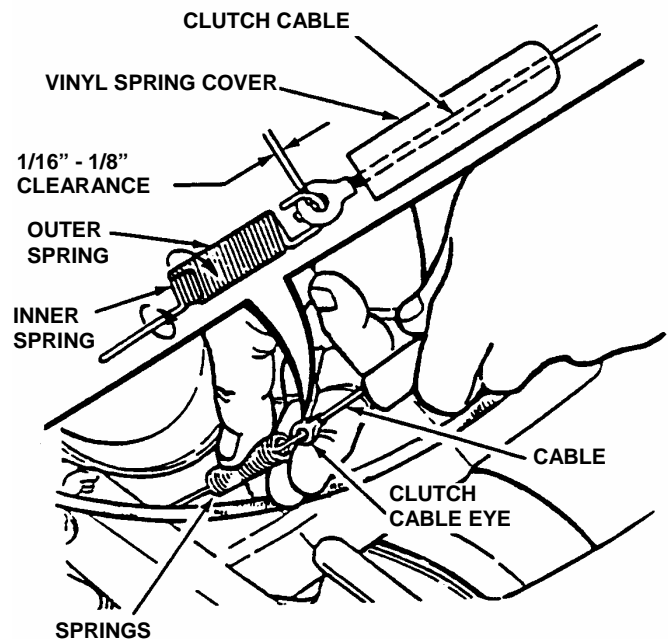

FIGURE 6
STEP 7: Check the clearance between the clutch cable and clutch spring. **NOTE:** Clearance between spring and cable is very important. Excessive clearance will cause drive system NOT to operate when wheel drive control handle is depressed. No clearance at all will cause mower to continue to propel itself when wheel drive control handle is released to stop mower movement. Slide vinyl spring cover (located at the end of clutch cable) up clutch cable to gain access to the end of spring and cable loop. With wheel drive control handle released, clearance between spring hook and cable loop should be $1/16"$ to $1/8"$. If clearance is more or less than specified, unhook spring from clutch cable eye, then adjust by rotating outer spring clockwise or counter clockwise to achieve the proper clearance. Rehook spring to clutch cable eye. Slide vinyl cover over the spring when correct clearance is reached. See Figure 6.